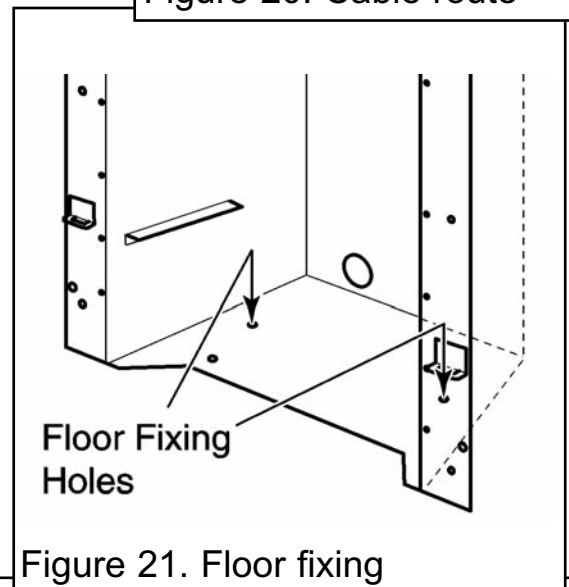

Figure 21. Floor fixing
8. Drill a hole into the fireplace floor through each of the two holes in the base of the hotbox using a suitably sized masonry drill bit for the fibre / wooden plugs supplied (See figure 21).